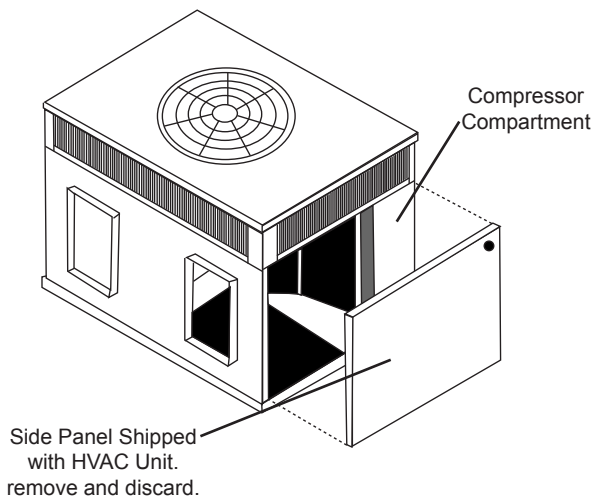

Fig. 5 - Panel Removal
1. Remove the filter access panel on the HVAC unit. Fig. 5.